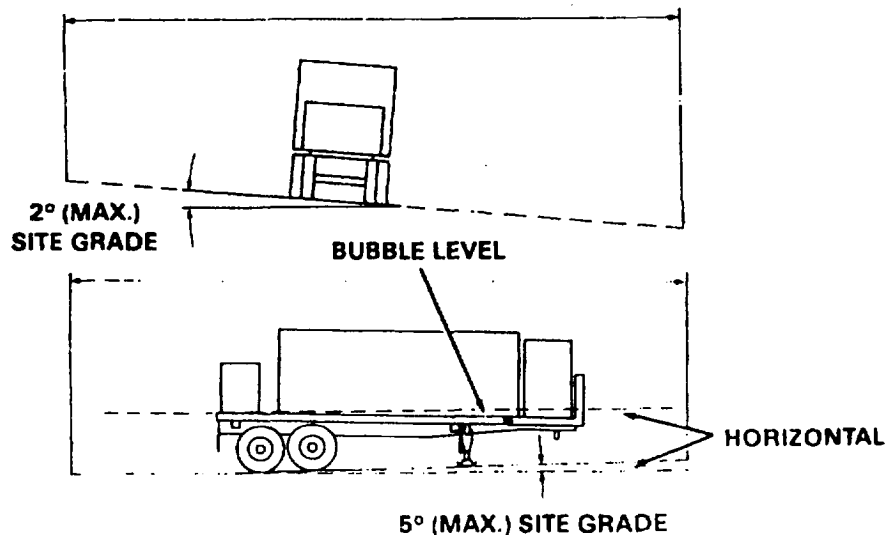

Figure 2-23. Positioning Trailer
- b. *Ready Trailer* (Figure 2-23).
- (1) Move trailer into a position at the work site which will allow front end to be slightly lower than the rear for water drainage. Trailer must also be positioned so that there is no more than a 2° side-to-side grade. Place wheel chocks under wheels to prevent trailer movement.